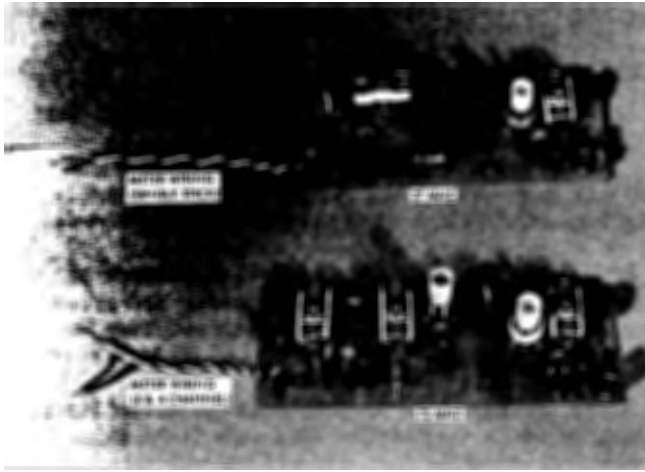

Figure 11. Wired RF Boards
- 91. Solder yellow and black meter wires to RF board assembly (Package no. 4) at position (P). Clip excess leads below board. See figures 11, 27 and 28 for correct connections and wire lengths. Twist these wires, then shrink a 1/8" length of 3/32" shrink tubing over wires as close to board as possible.